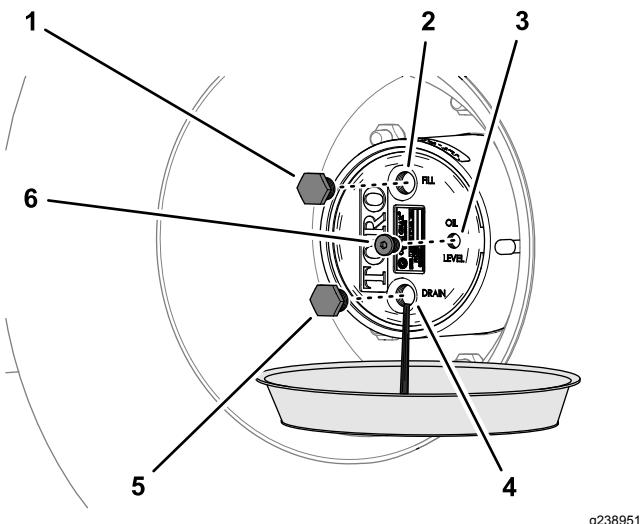

Figure 88
2. Place a drain pan under the hub of the planetary-gear drive, remove the drain plug, fill plug, and the check plug, and allow the oil to drain completely (Figure 88).